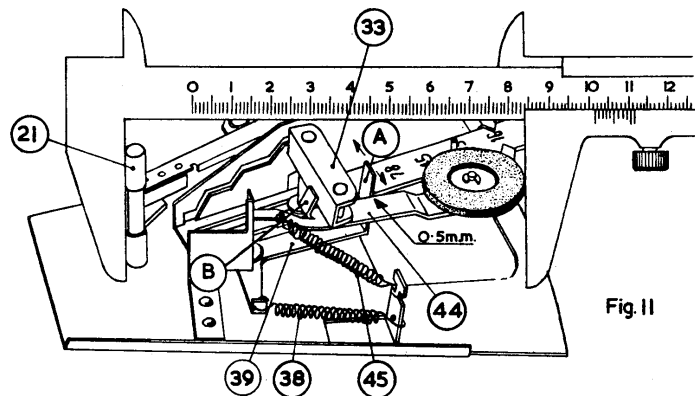

Fig. 11
- (e) In the 16 r.p.m. position with the switch lever in the "on" position, the distance between the idler wheel bracket 44 and lip A of the locating bracket 39 should be 0.5 mm. as shown in Fig. 11. Using the calipers as described in the previous paragraph, adjust if necessary by bending lip A of the locating bracket.